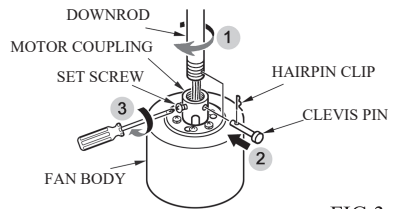

FIG.3
3. Carefully feed fan wires up through the downrod. Thread Downrod into the motor coupling until the holes are lined up and secure with the hairpin clip and clevis pin previously removed, tighten Set screws. (See Fig.3)